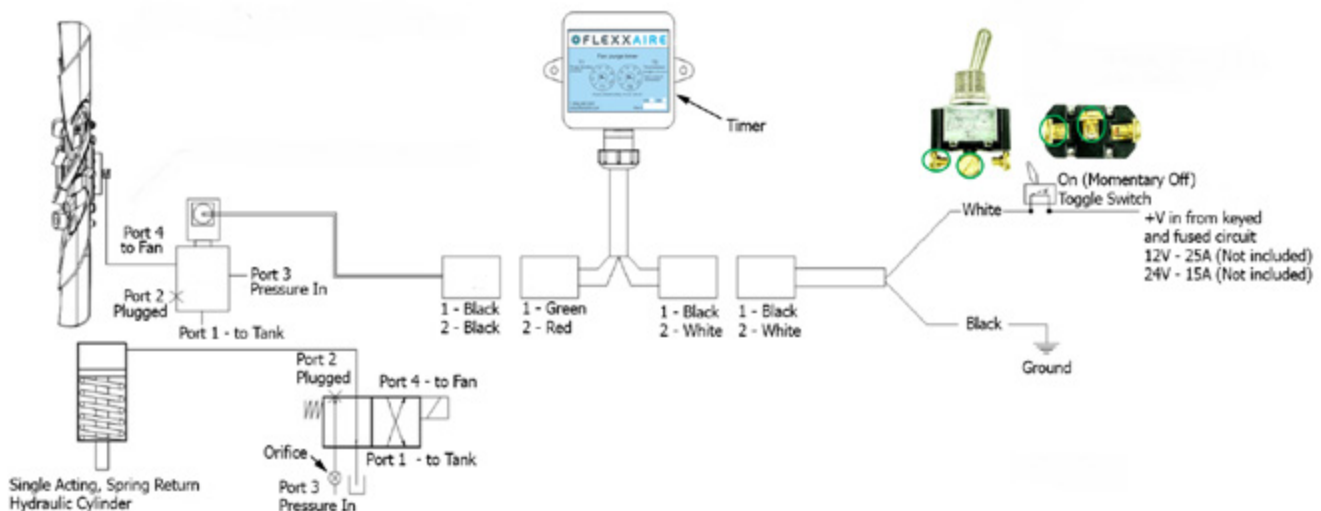

Figure 1
Please refer to Figure 1 below.
1. Mount the solenoid valve in a suitable location on the application. If a spacer plate is included with the control kit, mount the plate between the valve and the mounting surface as required. Ensure the orifice is in Port 3. Refer to Figure 1.
Control valve bodies from Flexxaire used on 2-Position systems (except FlexxTempo) include an orifice to control the speed at which the blades change pitch. Please see Figure 1 on page 6-2 for information regarding the specific location of the orifice.